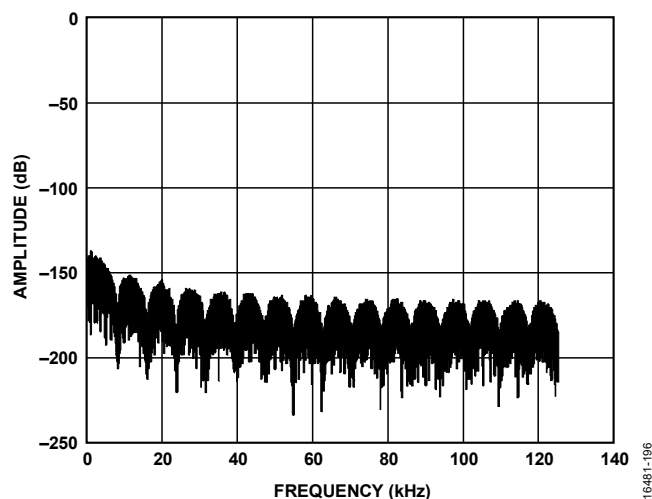

Figure 121. Example Filter Profile Upload
The following sequence programs a sinc1 filter. The coefficients in Address 0 to Address 23 = 0. The coefficients from Address 24 to Address 55 = 131,072 ($2^{22}/32$). When MCLK = 16.384 MHz and ODR = 256 kHz, the filter notch appears at 8 kHz and multiplies of 8 kHz. This filter provides low noise and is recognizable by the distinctive filter profile shown in Figure 121.
- Gather data. The resulting filter profile is shown in Figure 121.